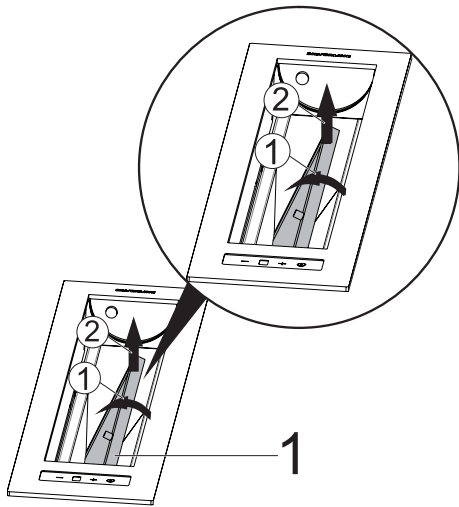

Fig. 10
2. ➤ ■ Pull back the aluminium metal filter via the holder on it (Fig. 10/1).
■ Remove the active carbon filter by pulling it towards the direction of the arrow (Fig. 10/2)